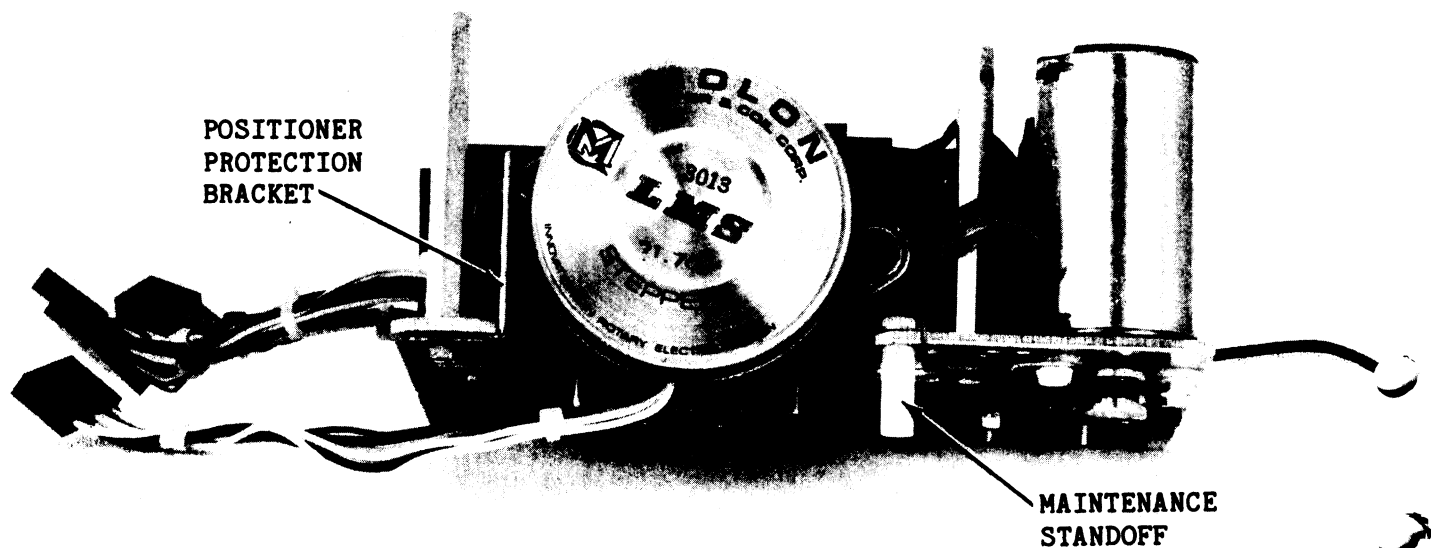

Figure 6-6. Positioner Mounting Screws and Protection Bracket
- c. Loosen the screw securing the positioner protection bracket (see Figure 6-6) and turn the bracket out of the way so the positioner can be removed.